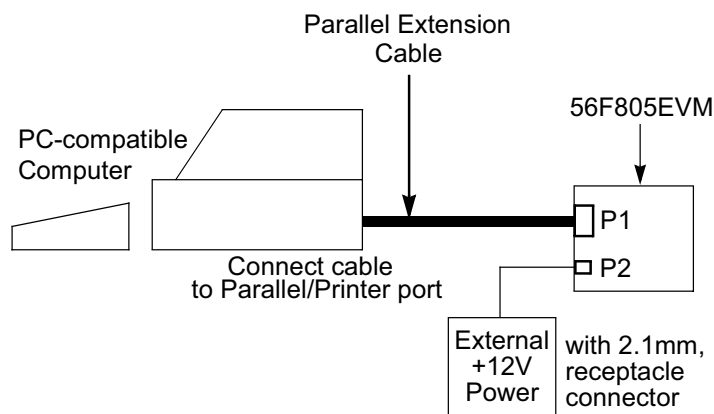

Figure 1-3. Connecting the 56F805EVM Cables
An interconnection diagram is shown in **Figure 1-3** for connecting the PC and the external +12V DC power supply to the 56F805EVM board.
2. Connect the other end of the parallel extension cable to P1, shown in **Figure 1-3**, on the 56F805EVM board. This provides the connection which allows the host computer to control the board.
4. Connect the 2.1mm output power plug from the external power supply into P2, shown in **Figure 1-3**, on the 56F805EVM board